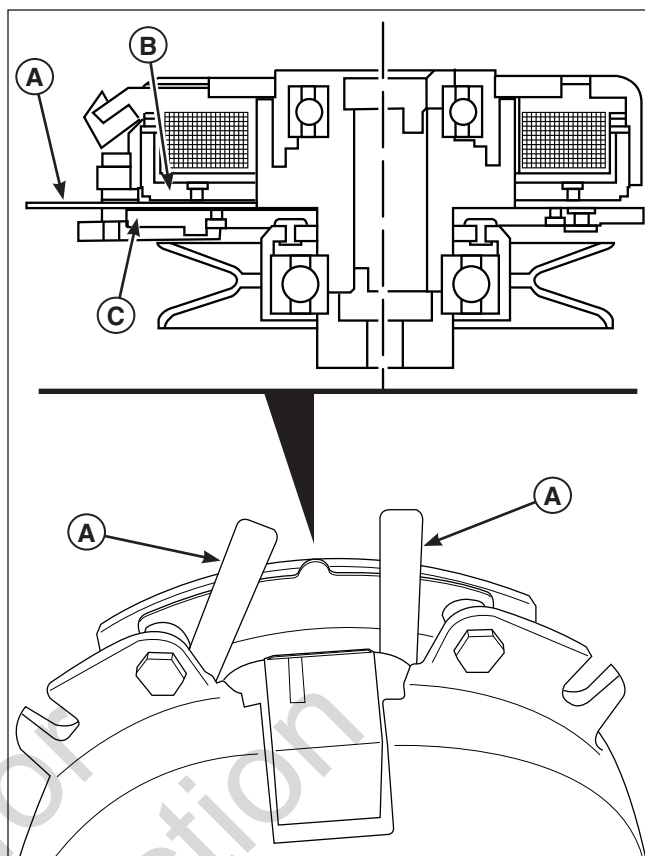

Figure 49. Adjust PTO Clutch
- Using needle nose pliers, take hold of the tab and remove the re-gap shim (C).
- Using a .010" thick feeler gauge (A, Figure 49), verify that the gap is present between the rotor and armature face on both sides of the brake pole as shown.